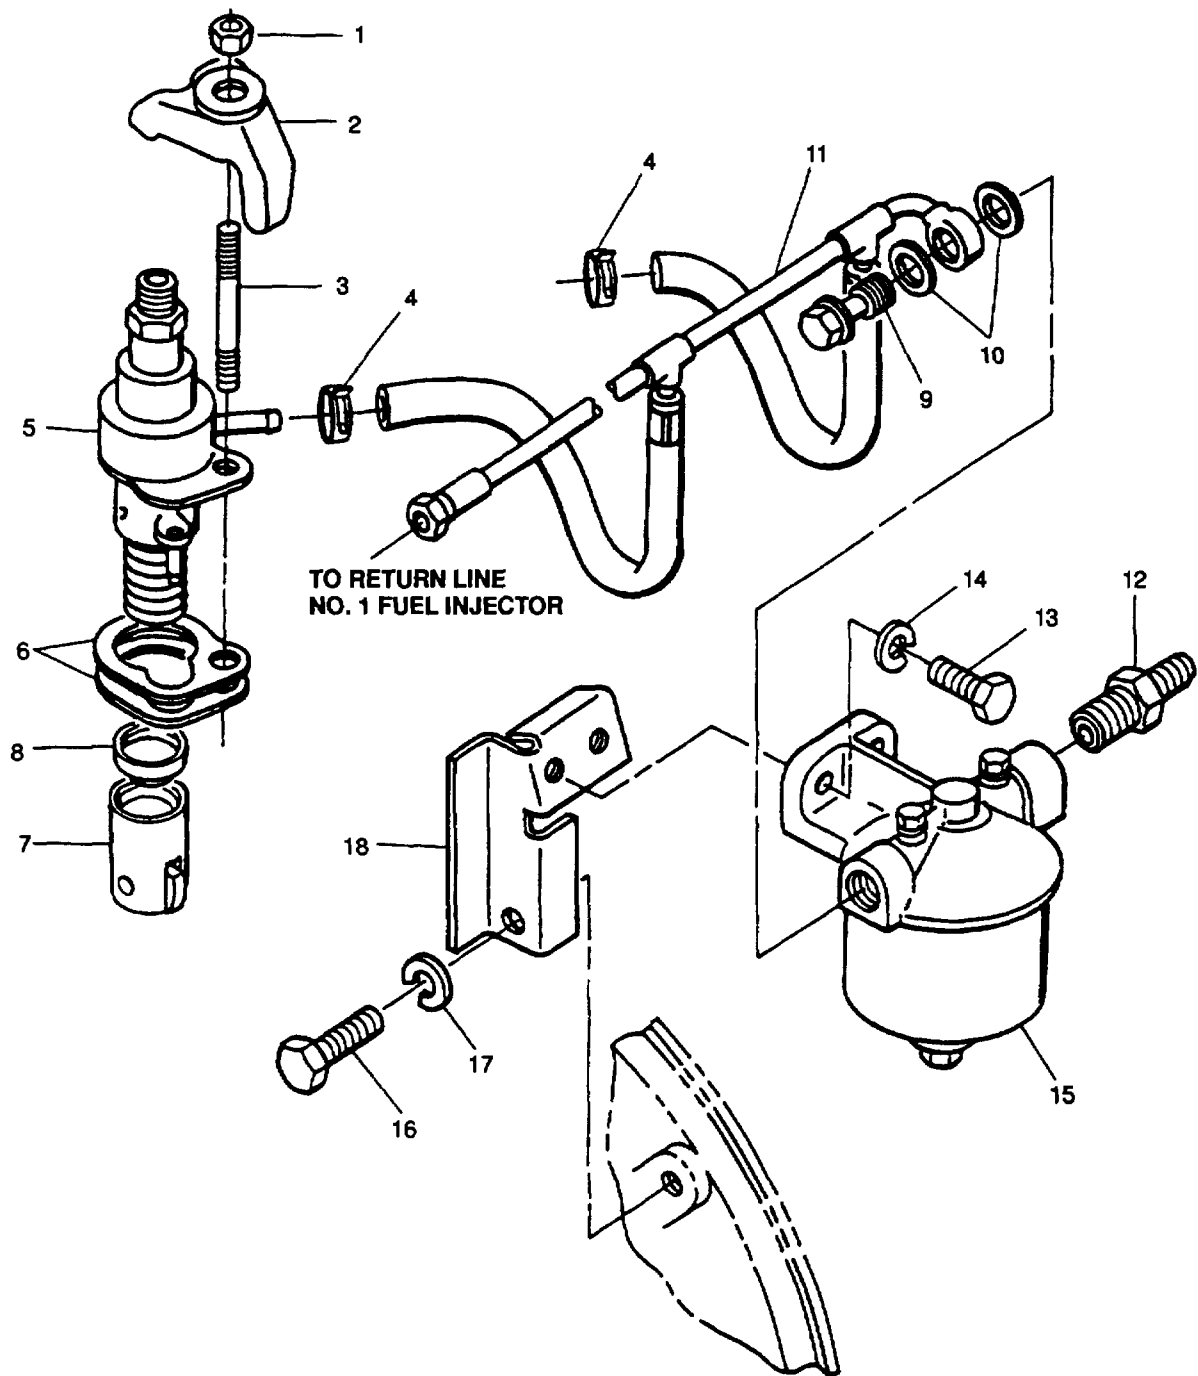

FIGURE 3-7. Fuel Injection Pump, Fuel Filter, and Supply Lines
- a. Loosen damp (4, FIGURE 3-7) and disconnect fuel supply line (11) from fuel injector pump (5).
- c. Remove fuel injector pipe between pump (5, FIGURE 3-7) and fuel injector. Refer to paragraph 3-18.
- e. Remove nut (1) and damp (2) securing fuel injection pump (5).
- f. Lift fuel injection pump (5) out of crankcase and remove shim pack (6). Tag them as to which cylinder they came from.
- g. If necessary, remove thrust cup (8) and tappet (7) from crankcase using magnetic pick-up. Tag them as to which cylinder they came from.
- h. If damaged, remove stud (3).
- c. If tappet (7, FIGURE 3-7) and thrust cup (8) were removed, install them as follows:
- (1) Tappet is installed in crankcase using long nosed pliers held open against top inside edge of tappet recess.
- (2) Submerge tappet in dean engine lubricating oil (MIL-L-2104).
- (3) Insert tappet in crankcase with longer slot facing outward to ensure it is correctly located over tappet stud. Refer to FIGURE 3-8. Install thrust cup (8, FIGURE 3-7).
- g. If removed, install stud (3, FIGURE 3-7).
- h. Install correct original shim pack (6) on fuel pump (5).
- (1) Do not remove or add to original shims installed between pump flange and steel plate.
- (2) Use extreme care to ensure that individual shim packs are installed between each fuel pump plate and crankcase and that they are retained with their original respective cylinder.
- (3) Shims are available in three sizes and are color coded. Refer to TABLE 3-3.
- a. Loosen clamps (4, FIGURE 3-7) and disconnect supply hoses of fuel line (11) from fuel injection pumps (5).
- b. Disconnect fuel return hose from fuel supply line (11).
- c. Remove swivel union plug (9) securing fuel line (11) to fuel filter (15); remove fuel line (11) and two seals (10). Discard seals (10).
- b. Connect fuel line (11, FIGURE 3-7) to fuel filter (15) using two new seals (10) and swivel union plug (9).
- c. Connect supply line (11) hoses to fuel injection pumps (5) and secure with clamps (4).
- d. Connect fuel return line to supply line (11).